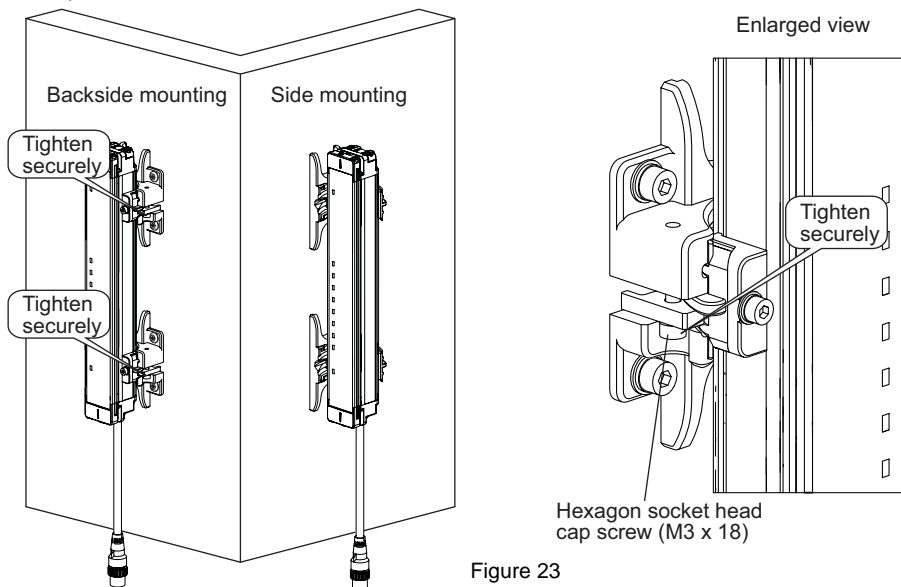

Figure 23
- 7.** Tighten the lightly tightened the hexagon socket head cap screws (M3 x 18) of Intermediate Bracket (3) to prevent rotation. (Figure 23)